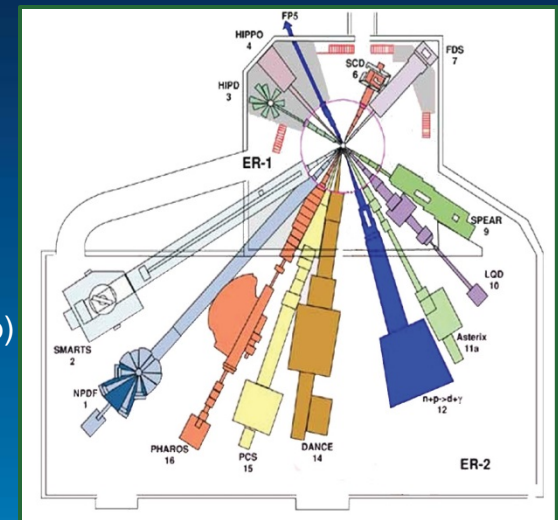

Figure 1
- The scope of the Lujan Limited Flight Path Disposition Project (LLFPD) is presently confined to the decommissioning and demolition (D&D) of the LANSCE - Lujan Center flight paths (Figure 1) and supporting infrastructure that were previously supported by DOE Basic Energy Sciences (BES) and Biological and Environmental Research (BER) programs.